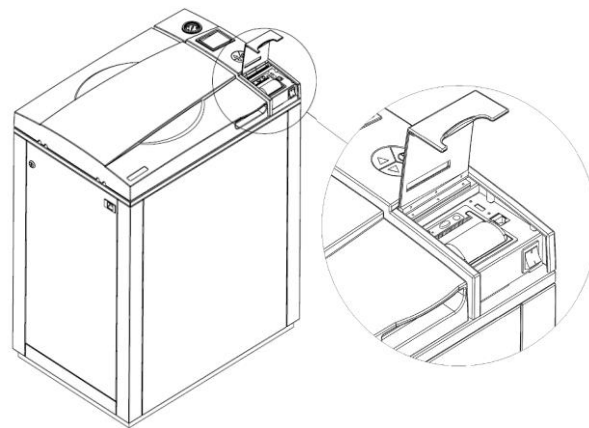

Fig. 2
1. Open the printer's cover door (1) by pulling it up (see Fig. 2).
6. Close the printer's cover door (1) by pulling it down, with the tip end of the paper emerging from the slot (2) (see Fig. 2).